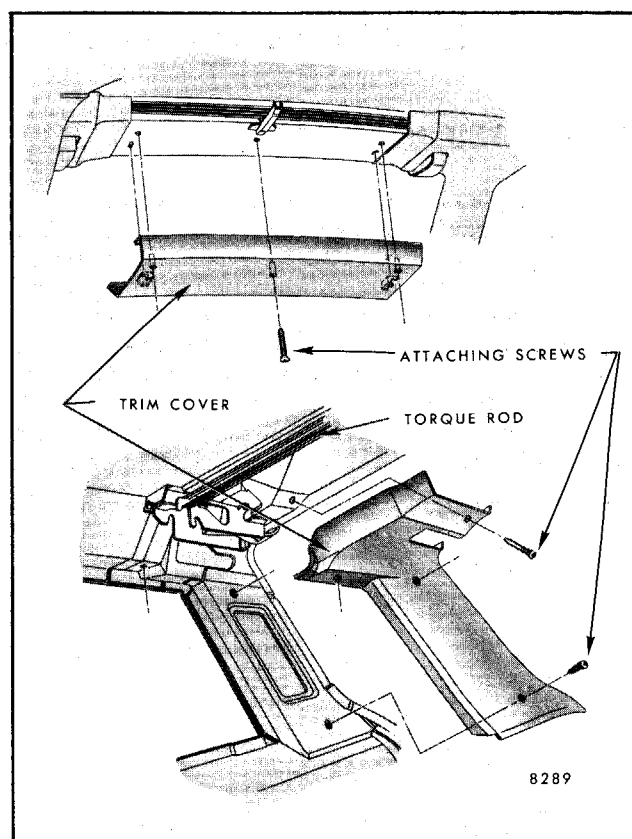
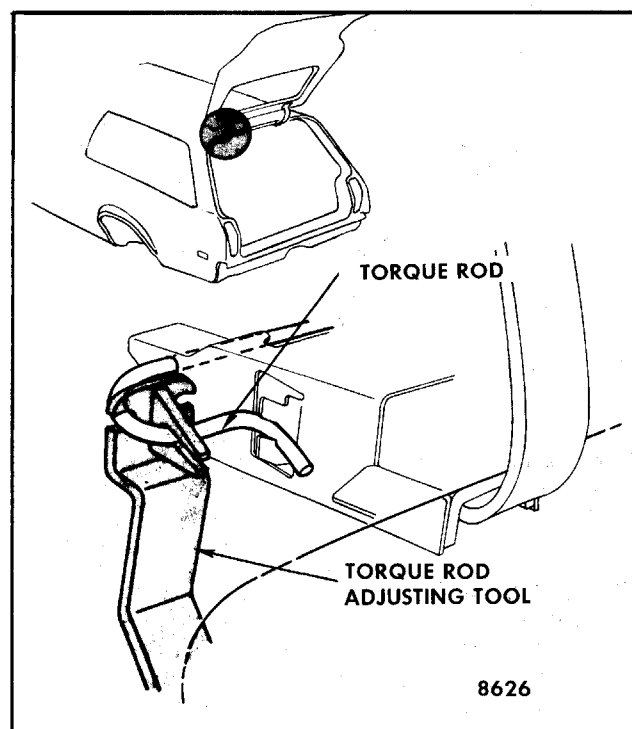

Fig. 7-95-Torque Rod Trim Removal - "H-15" Styles
Fig. 7-96-Torque Rod Adjustment - "H-15" Styles
Adjustments (Fig. 7-96)
2. To remove torque rods, open back door and remove trim covers as shown in Figure 7-95, disengage end of torque rod from adjusting notches as shown in Figure 7-96. Then allow handle of removal tool to rotate forward to relieve tension on rod.